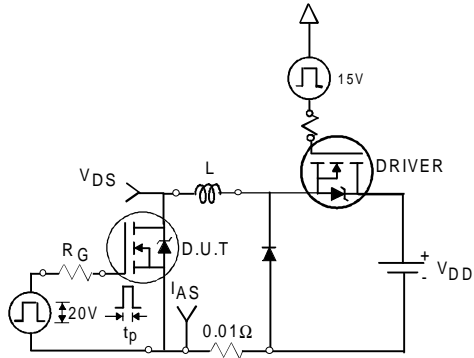

Fig 12a. Unclamped Inductive Test Circuit
- ③ $I_{SD} \leq 82A, di/dt \leq 310A/\mu s, V_{DD} \leq V_{(BR)DSS}, T_J \leq 175^\circ\text{C}$
- ④ Pulse width $\leq 400\mu s$; duty cycle $\leq 2\%$.
- ⑤ $C_{oss \text{ eff.}}$ is a fixed capacitance that gives the same charging time as C_{oss} while V_{DS} is rising from 0 to 80% V_{DSS} .
- ⑥ Calculated continuous current based on maximum allowable junction temperature. Package limitation current is 75A.
- ⑦ Limited by T_{Jmax} , see Fig.12a, 12b, 15, 16 for typical repetitive avalanche performance.
3. Equation below based on circuit and waveforms shown in Figures 12a, 12b.